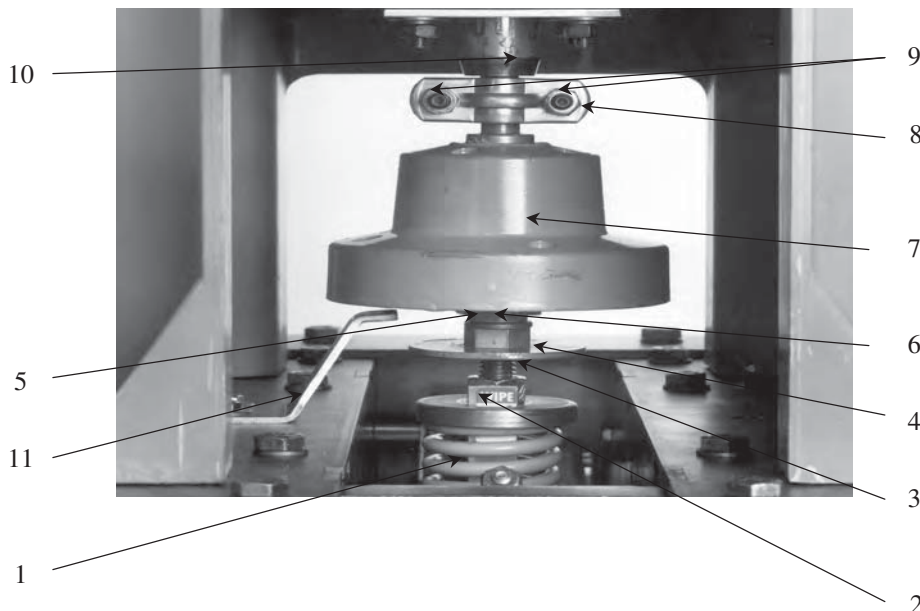

Figure 6 Operating rod assembly
In the closed position, the erosion disk (item 3, Figure 6) below the operating rod insulator is aligned with a reference arm (item 11, Figure 6) on new interrupters. As contact erosion occurs, the erosion disk will move upward from alignment with that reference arm. When erosion reaches 1/8 inch, the PowerVac® interrupters should be replaced. **DO NOT RE-ADJUST THE ALIGNMENT OF THE EROSION INDICATOR ARM EXCEPT WHEN INSTALLING A NEW VACUUM INTERRUPTER.**